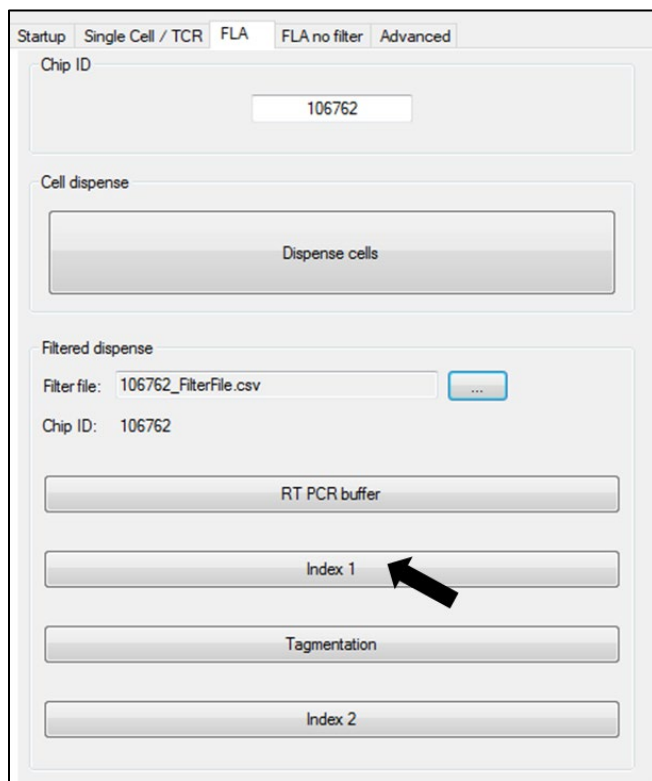

Figure 40. Load the PredispensedFilter.csv file into the ICELL8 MSND software and choose [Index 1].
- Under the *FLA* tab, click the browse button next to the Filter file field to load the <Chip Number>.CSV filter file (Figure 40).